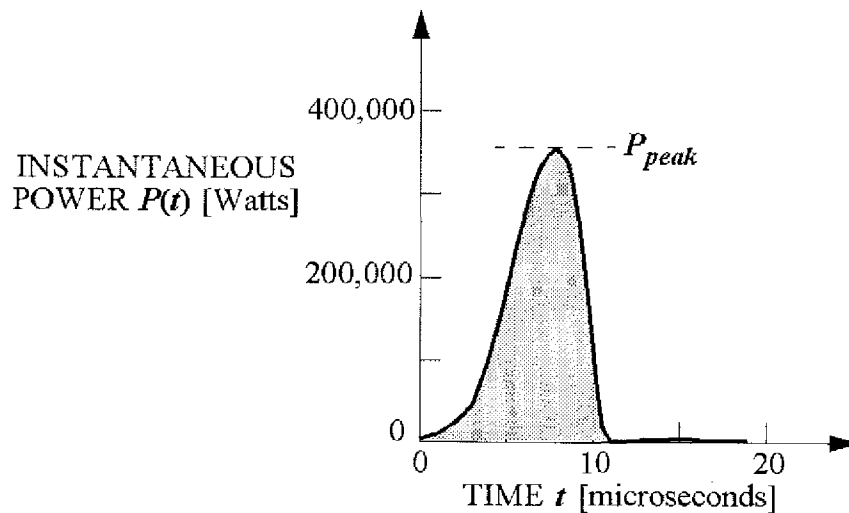

Fig. 2 - Instantaneous output power $P(t)$ of ADVANCED TASER M26.
as shown in Fig. 2.
(4) Energy Per Pulse: The energy-per-pulse W [Joules] is given by the shaded area² under the curve in Fig. 2. For the ADVANCED TASER® M26, still assuming $R = 1,000 \text{ Ohms}$, this area is found to be